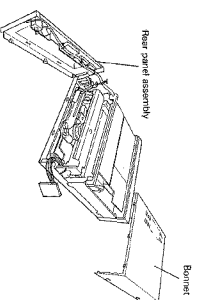

Fig. 1. Player unit with bonnet and rear panel removed
- (1) Mechanical adjustments
- ① Ready-to-play for adjustment
- Mechanical adjustments are to be done with the bonnet and the rear panel removed. (Fig. 1.)